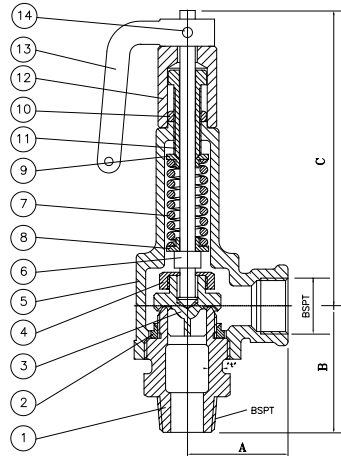

Figure 1: Forbes Marshall Safety Relief Valve
Dimensions: (approx.) in mm (Refer to Figure 1)
4. Product Working Principle : (Refer to Figure 1)
6.2 Safety relief valve setting : (Refer to Figure 1)
7.3 Maintenance/Replacement Procedure : (Refer to Figure 1)